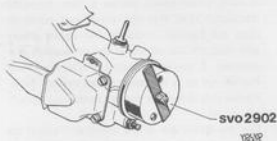

Fig. 3-109. Tools for adjusting engine speed during ignition setting. B 20 E, B 20 F
4. Start the engine. Fit the plastic cover, SVO 2902, on the inlet duct, see Fig. 3-109, and adjust down the engine speed to 11.6—13.4 r/s (700—800 r/m) by moving the bar over the hole in the plastic cover.